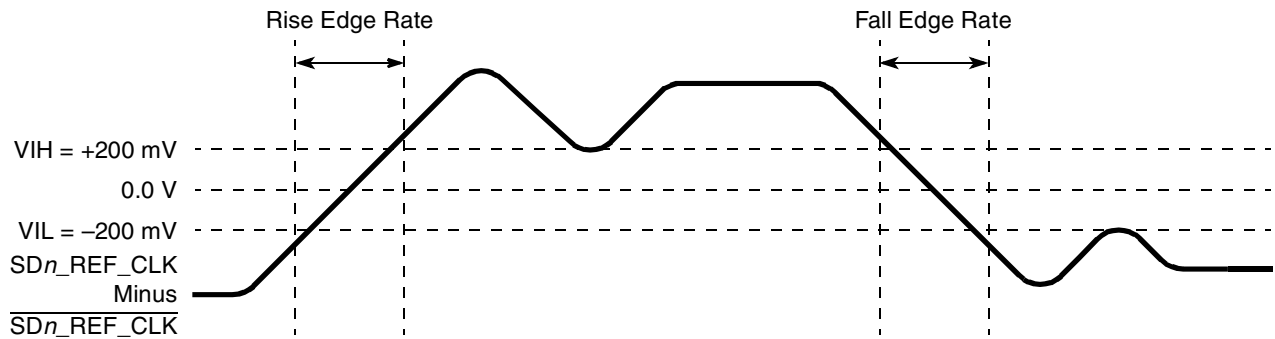

Figure 60. Differential Measurement Points for Rise and Fall Time
3. Measured from -200 mV to +200 mV on the differential waveform (derived from SDn_REF_CLK minus SDn_REF_CLK). The signal must be monotonic through the measurement region for rise and fall time. The 400 mV measurement window is centered on the differential zero crossing. See Figure 60.